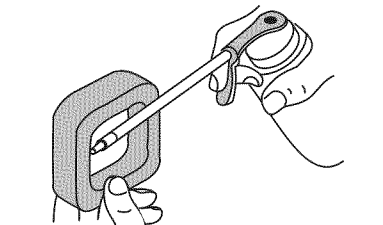

Fig. 36
4. Apply enough clean SAE 30 motor oil to lightly coat the filter (Fig. 36).